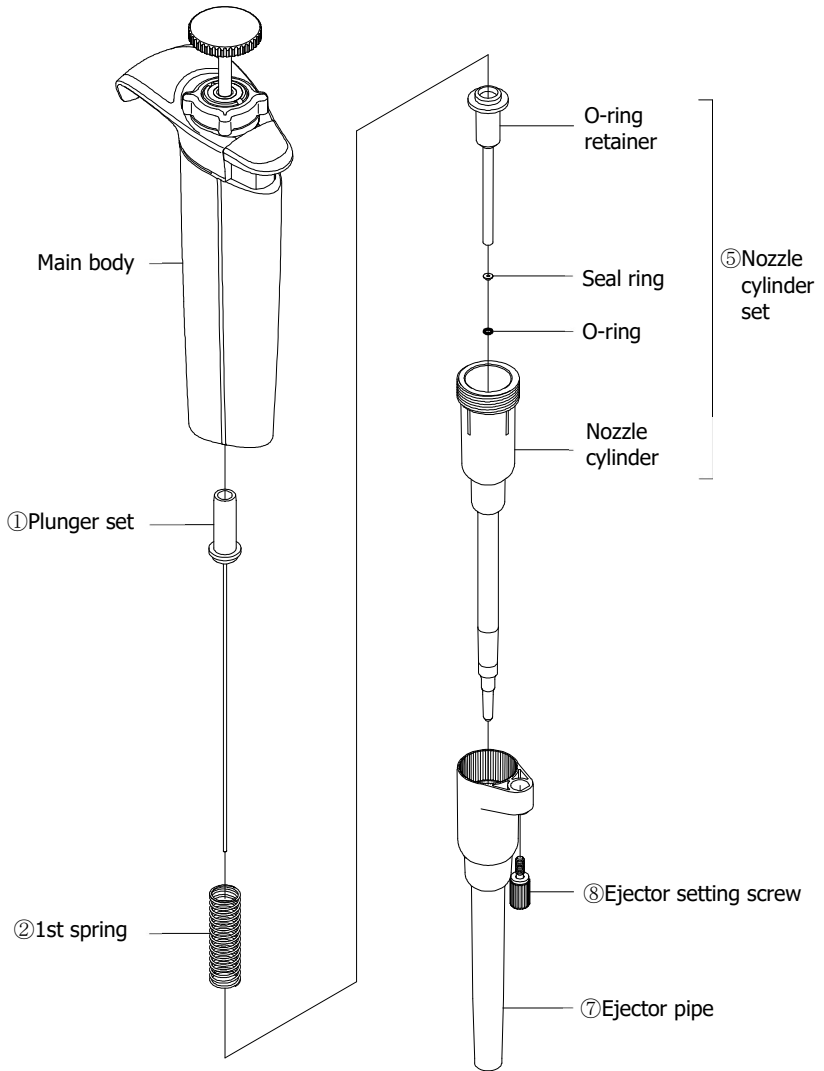
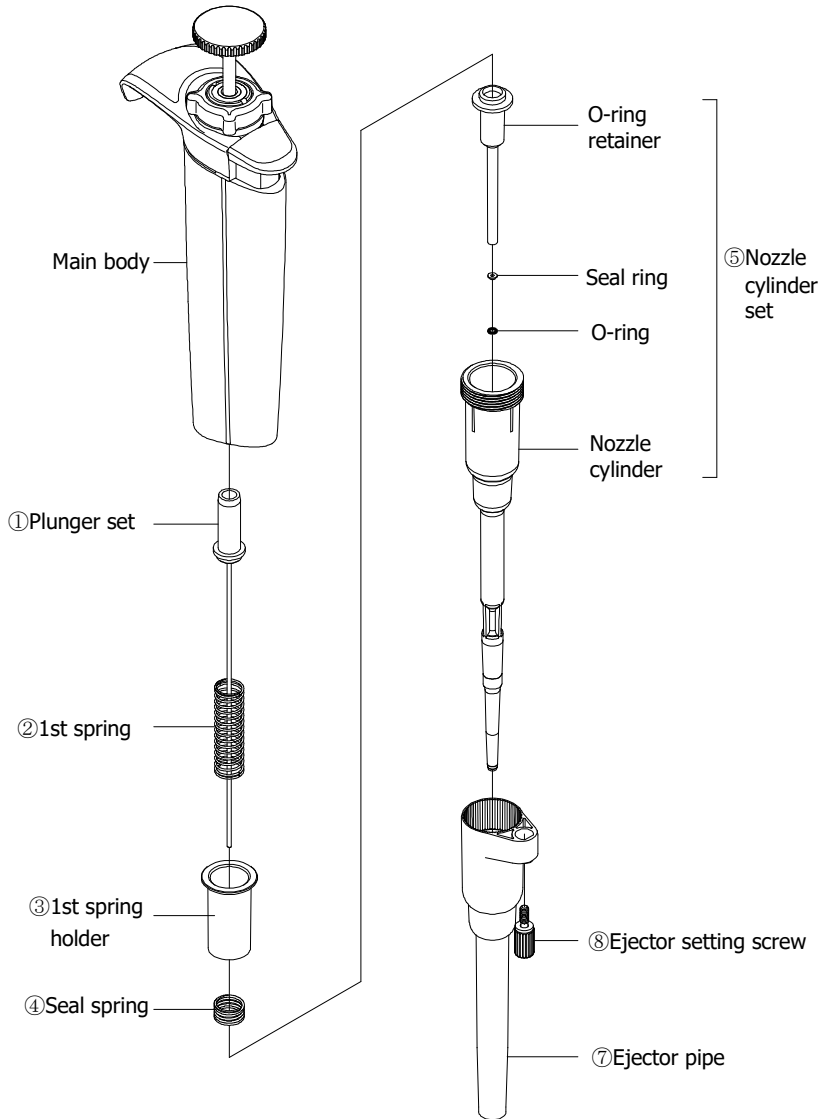
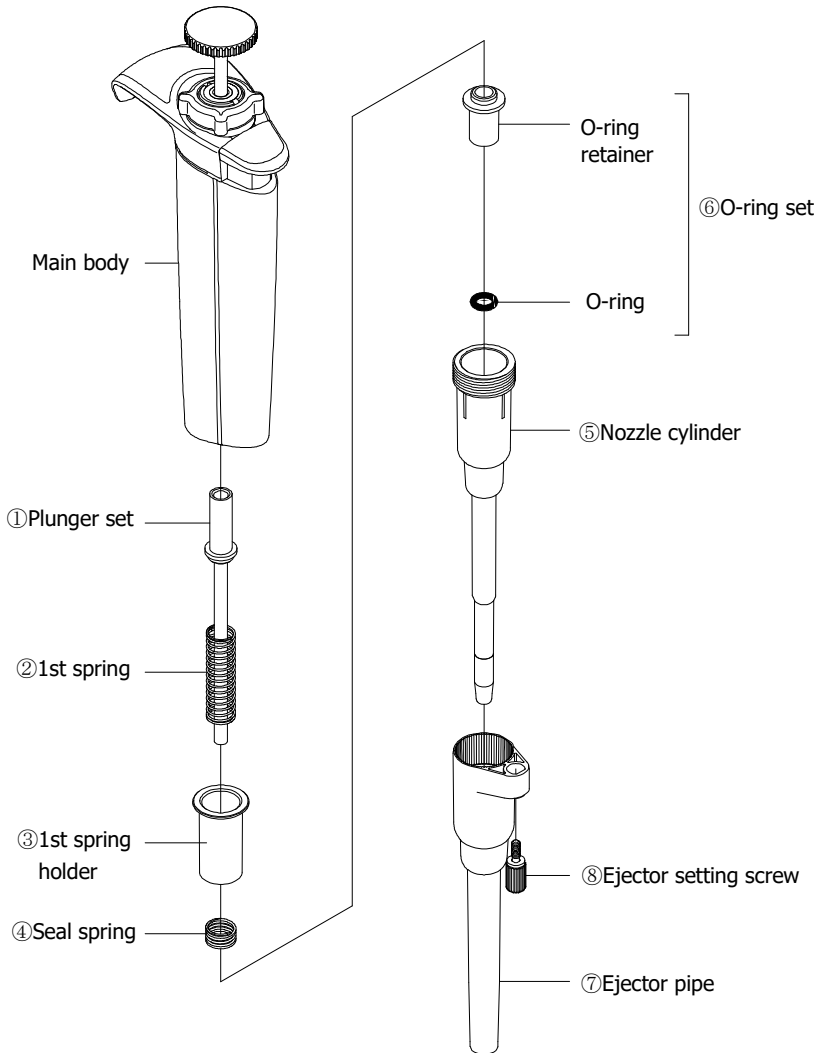
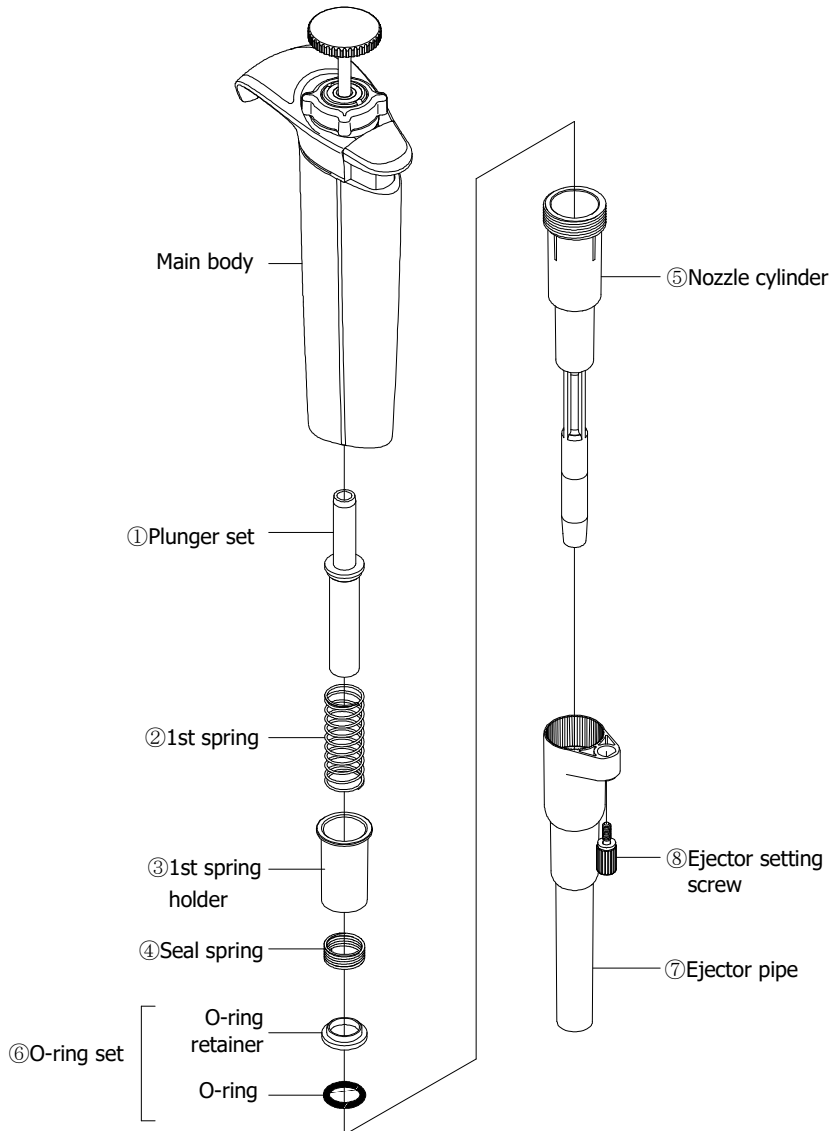

Fig. H1
Fig. H2
Fig. H3
Fig. H4
- 3) Disassemble the internal parts as shown in; (Fig. H1) for Models: 2 $\mu$ L, 10 $\mu$ L, (Fig. H2) for Models: 20 $\mu$ L, and (Fig.H3) 100 $\mu$ L and 200 $\mu$ L.
- ✓ There are very rare instances in which the O-ring and seal ring may come off during disassembly of the 2 $\mu$ L, 10 $\mu$ L and 20 $\mu$ L models, hence we have shown the respective parts detached and separated on (Fig. H1) and (Fig. H2).
- For models: 100µL and 200µL (Fig. H2), 1000µL (Fig. H3)
- Models: 2µL, 10µL (Fig. H1), 20µL(Fig.H2),100µL and 200µL (Fig. H3), 1000µL (Fig. H4)
Circled Numbers in (Fig. H1) corresponds to Parts Numbers in the replacement parts list.
Circled Numbers in (Fig. H2) corresponds to Parts Numbers in the replacement parts list.
Circled Numbers in (Fig. H3) corresponds to Parts Numbers in the replacement parts list.
Circled Numbers in (Fig. H4) corresponds to Parts Numbers in the replacement parts list.